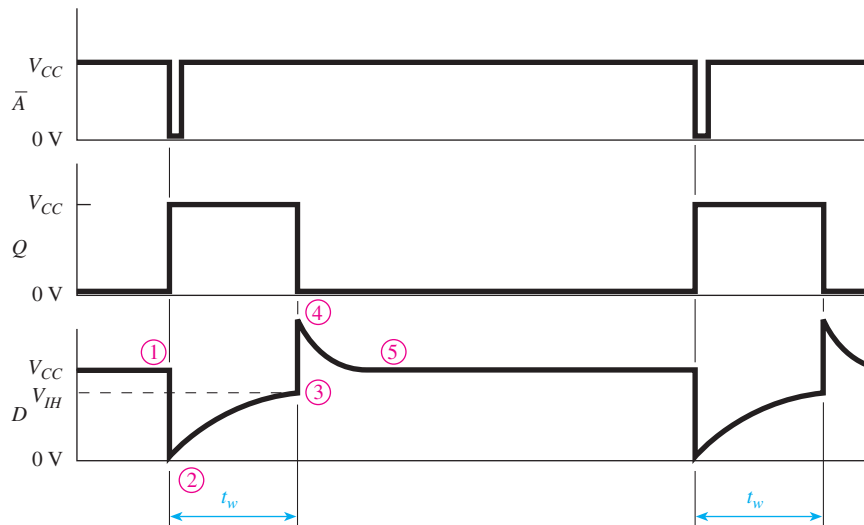

Figure 14-10 Input/output waveforms for the circuit of Figure 14-9.
The waveforms in Figure 14-10 show the I/O characteristics of the circuit and will enable us to develop an equation to determine t_w . In the stable state ($\bar{Q} = \text{HIGH}$), the voltage at point D will sit at V_{CC} ① because the capacitor is discharged (it has V_{CC} on both sides of it). When \bar{Q} goes LOW due to an input trigger at \bar{A} , point D will follow \bar{Q} LOW ② because the capacitor is still discharged. Now, the capacitor will start charging toward V_{CC} . When point D reaches V_{IH} ③, \bar{Q} will switch back HIGH. The capacitor still has V_{IH} volts across it as follows: